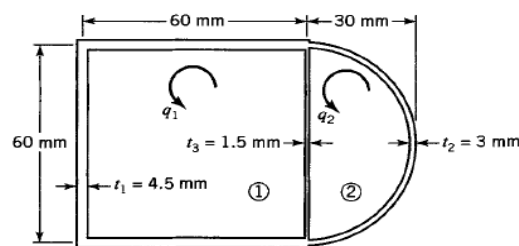

Fig.4
15. A hollow thin-wall torsion member has two compartments with cross-sectional dimensions as indicated in **Fig.4**. The material is an aluminium alloy for which $G=26.0$ GPa. Determine the torque and unit angle of twist if the maximum shear stress, at locations away from stress concentrations, is 40.0 MPa. [14M]